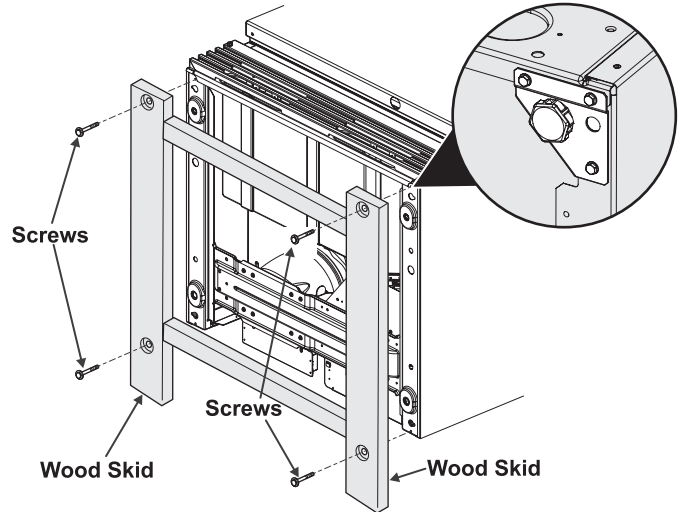

Figure 1
- Remove and discard the four screws holding the wood skid to the bottom of the unit using a 3/8” socket wrench. See Figure 1. Discard the wood skid.
- Remove and discard the two front brackets with leg leveler using a 1/4” socket wrench. See Figure 1.
- Locate and align fixed caster (with brake lever facing front of unit - see Figure 3) over the same mounting holes from bracket in Figure 1 using six hex screws (3 for each caster). Secure the screws snug using a 3/8" socket wrench. DO NOT OVERTIGHTEN.